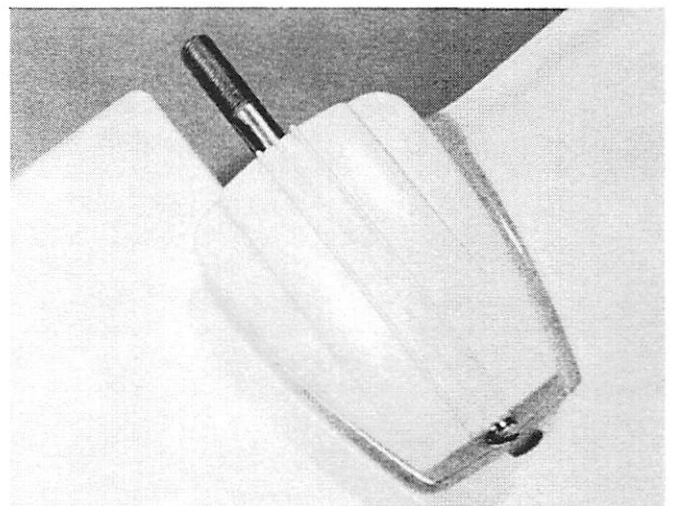

Figure 52C
- g. Slip forward edge of mount cover over leading edge of mount clamp and press cover tight against drive shaft housing. Install cover screw and tighten securely. (Figure 52C)